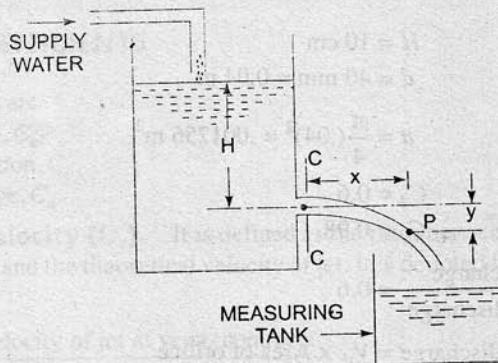

Fig. 7.2 Value of C_d
7.5.1 Determination of C_d . The water is allowed to flow through an orifice fitted to a tank under a constant head, H as shown in Fig. 7.2. The water is collected in a measuring tank for a known time, t . The height of water in the measuring tank is noted down. Then actual discharge through orifice,
7.5.2 Determination of Co-efficient of Velocity (C_v). Let $C-C$ represents the vena-contracta of a jet of water coming out from an orifice under constant head H as shown in Fig. 7.2. Consider a liquid particle which is at vena-contracta at any time and takes the position at P along the jet in time ' t '.